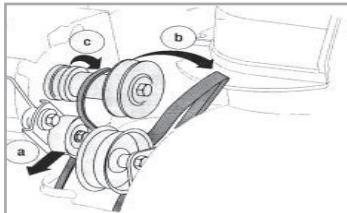

Fig.29
c. Lift the drive belt off engine pulley. See Figure 29.